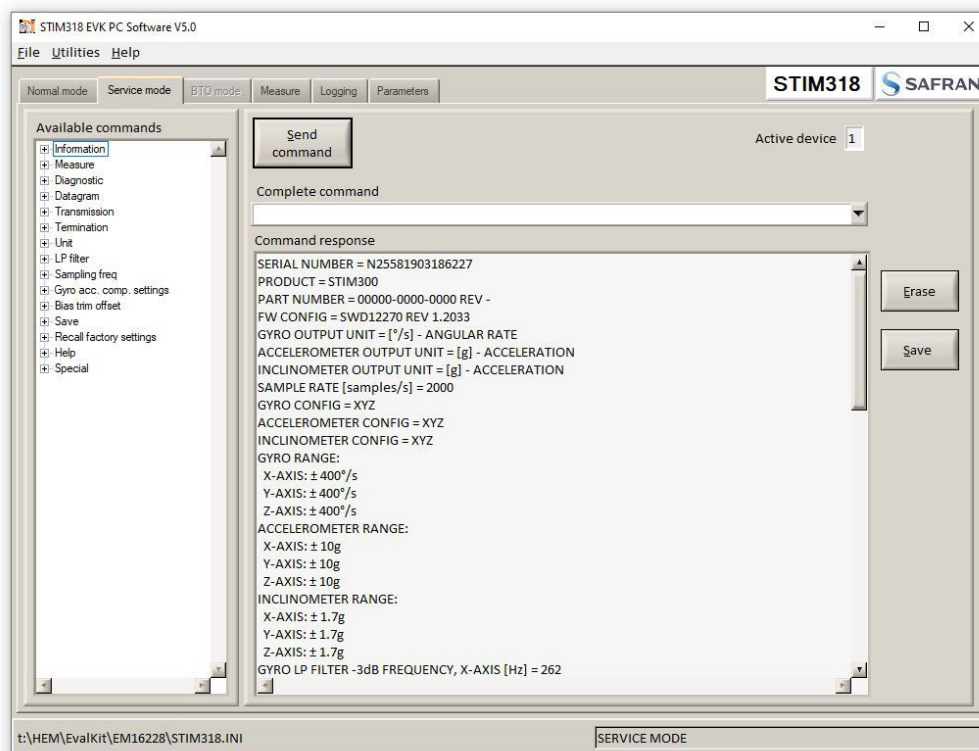

Figure 24: Service mode panel
10. A green LED (Data arriving from device n) indicates that data is received from the IMU(s). Verify the communication to module by clicking on the 'Request serial# DG' button. An example of such a result is shown in Figure 24. The system is now ready for use.